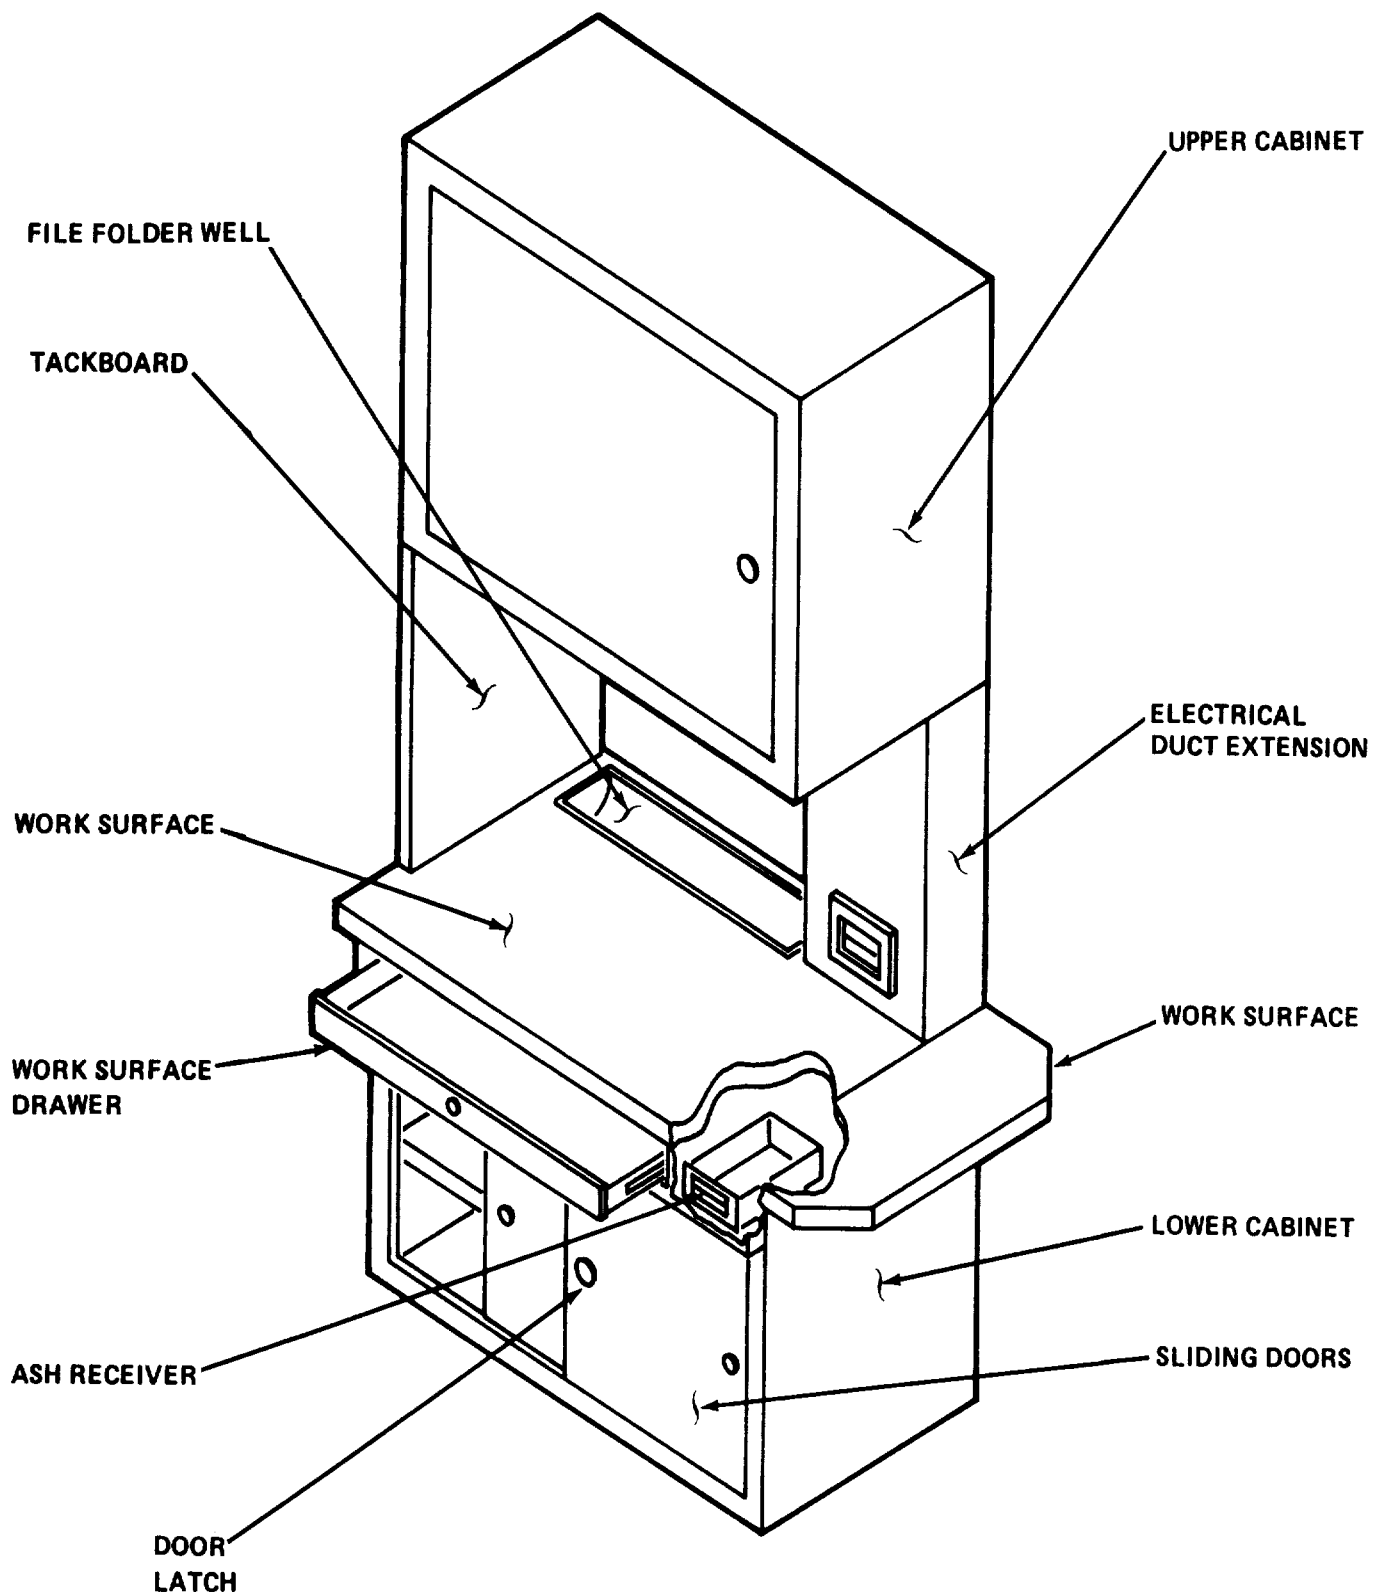

Figure 1-3. Comer Console Assembly
b. Corner Console. Refer to figure 1-3. Each corner console consists of a base and air duct, lower cabinet, work surface, tack board, electrical duct extension, work
(2) *Lower Cabinet*. Refer to figure 1-3. The lower cabinet is a shelf-type cabinet with a pair of sliding doors. For normal operation, a finger pull is provided on the far side of each door. A sliding door latch is located on the right door for the purpose of preventing door movement during transit. Behind the doors is a shelf assembly which is adjustable to six different positions. The shelf has two spring-loaded plungers, one on either side of the shelf.
(3) *Work Surface*. Refer to figure 1-3. A plastic covered work surface assembly is positioned on top of and extends over the lower cabinet assembly. Below the work surface is a drawer that has slide stops which prevent accidental removal of the drawer. A file folder well is located at the rear of the work surface. An ash receiver is provided next to the drawer. The corner console, opposite the safe, has a removable equipment tray mounted on the surface. This tray serves as a mount for the typewriter.
(4) *Work Surface Extension*. Refer to figure 1-3. A plastic covered work surface extension is bolted to the side of each work surface.
(5) *Tack Board*. Refer to figure 1-3. An "ell-" shaped tack board is mounted in the corner of the corner console between the upper cabinet and the work surface.
(6) *Electrical Duct Extension*. Refer to figure 1-3. An electrical duct extension is mounted between the work surface and the upper cabinet of each console. Two convenience receptacles, a telephone receptacle, and a blackout receptacle are provided with each duct. Some ducts also have provisions for a blackout circuit switch, circuit breakers, and telephone mounting panels.
(7) *Upper Cabinet*. Refer to figure 1-3. The upper cabinet is a hinged door-type shelf cabinet with one adjustable shelf having a total of five positions.